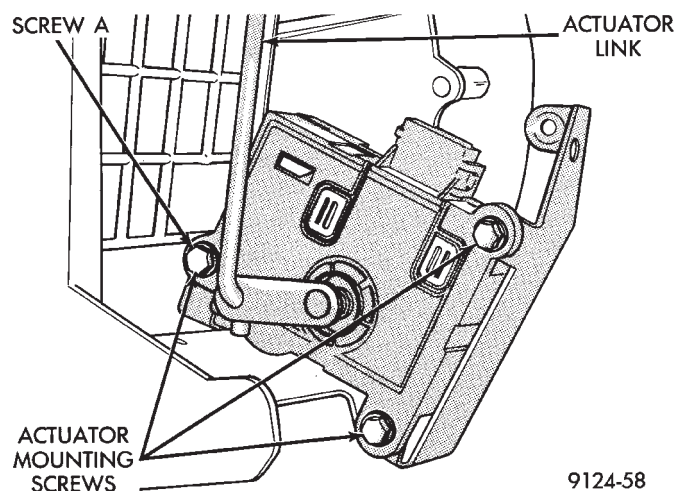

Fig. 8 Actuator Removal and Installation
- (7) Remove three screws holding the actuator to the mounting bracket (Fig. 8).
CAUTION: Do not allow screw A (Fig. 8) to drop into A/C-heater housing assembly.